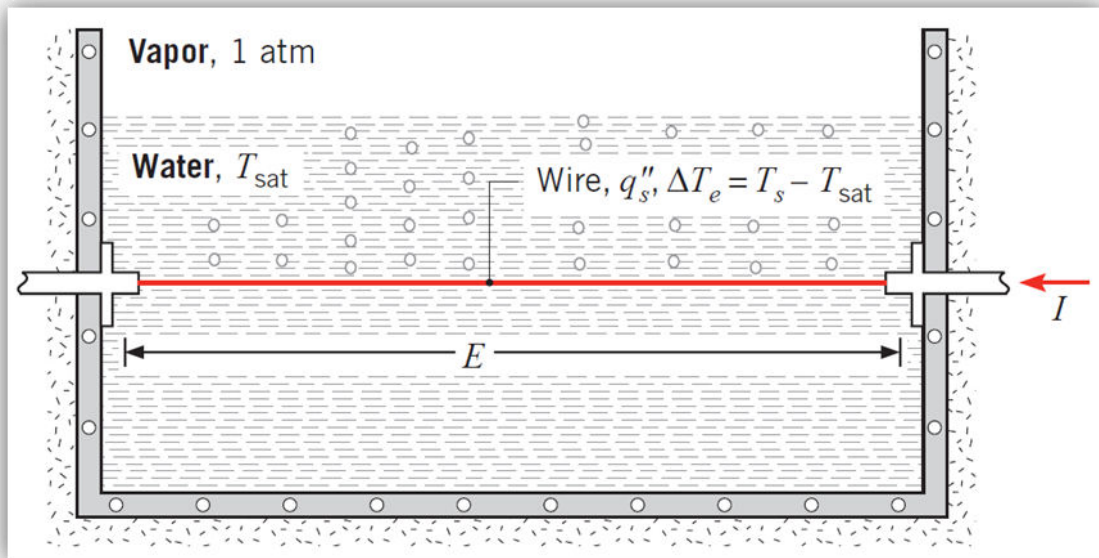

Fig. 8.2 Nukiyama's power controlled heating apparatus for demonstrating the boiling curve
- Nukiyama (1934) was the first to identify different regimes of pool boiling using the apparatus of Fig. 8.2. These different regimes can be illustrated by considering an electrically heated horizontal nichrome/Platinum wire submerged in a pool of liquid at saturation temperature.